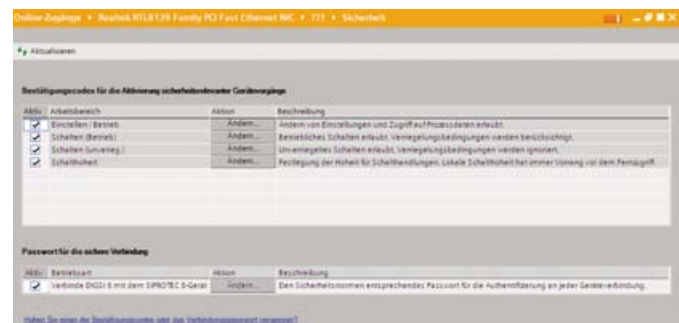

Fig. 9.5 Settings dialogs for passwords and security prompts
- Then, confirmation codes are requested for security-critical actions that have write access to the device, for example changing parameters. These can be configured by the user and there are various confirmation codes for the protection and control functionality (Fig. 9.5, page 65).